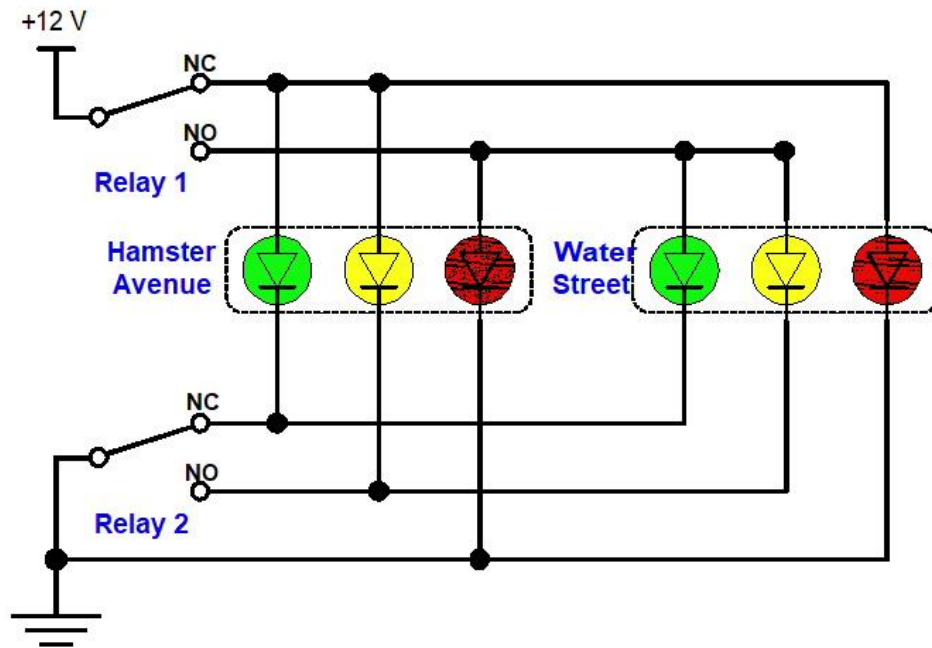
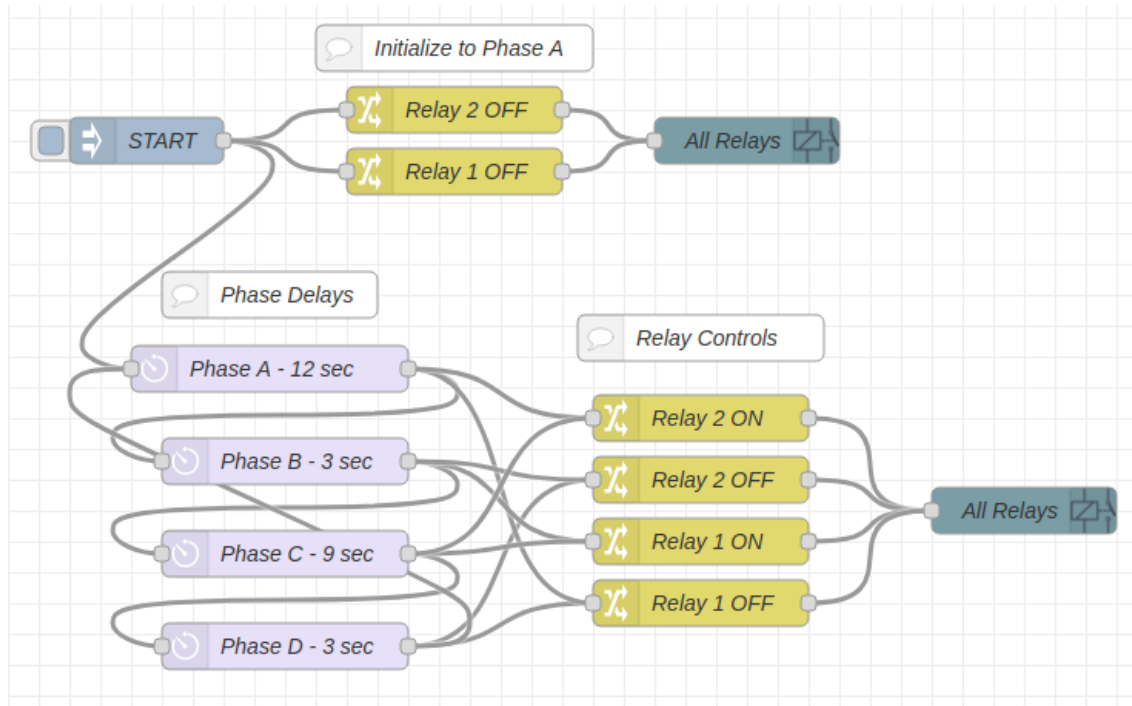

Figure 6-25; Traffic Controller Schematic
Figure 6-26: Traffic Light Controller Flow
**Puzzle # 4 - Gray Codes** – There is a small engineering shortcoming in the design shown in Figure 6-25. Look at the table below the figure and you will see that when the relays transition from phase B to phase C (and from phase D to phase A) that both relay contact change simultaneously. Think back to the discussion about how electrical components live in your world, the real world. The contacts do not switch instantly, and one relay may be faster than another relay. This means that when the contacts change from say phase D to phase A they might hit phases B or C before they finally settle down. You might even see this as a small flicker between phases.
Look carefully and you will see that between each phase transition only one relay contact changes. Perfect, now you will need to fix the schematic in Figure 6-25 and make a few small changes to the flow in Figure 6-26. Are you up to the challenge?